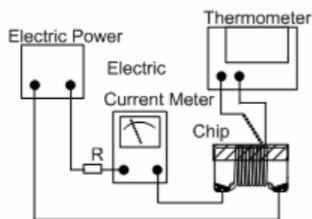

Fig. 6.3.4-1
- h. Definition of Rated Current (Irms): Irms is direct electric current as chip surface temperature rose just **25°C** against chip initial surface temperature ( $T_a$ ) (see **Fig. 6.3.4-2**).